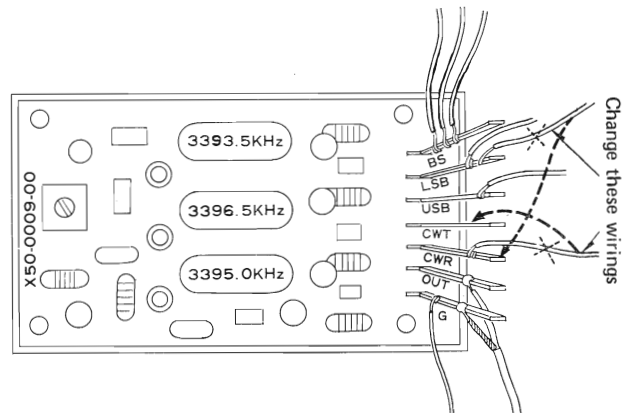

Fig. 2. Changing Wirings in
- (4) Disconnect the gray/white striped vinyl coated wire from the CWR terminal on the CARRIER unit (X50-0009-00), located inside the chassis, and replace it to the CWT terminal by soldering. Then cut the brown/white striped vinyl coated wire from the LSB terminal, and replace it to the CWR terminal by soldering. The installation work is now completed (Fig. 2).
- (5) Mount the top and bottom covers onto the transceiver set.